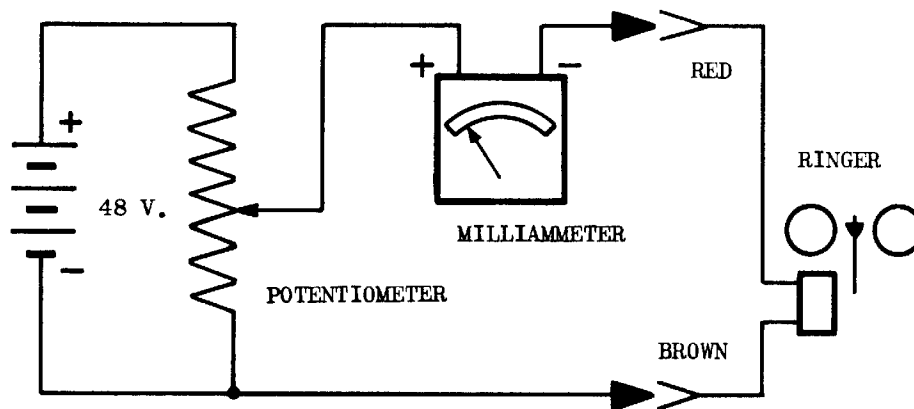

Fig. 13. Bias Adjustment
a. The recommended method of checking the bias adjustment is the current flow test. This requires a variable source of d-c voltage and a millammeter. The potentiometer connected across a 48 volt battery will provide a variable d-c voltage. Make sure the bias-spring is in the low-bias position. Connect the ringer, millammeter and potentiometer to 48 volt battery as shown in the diagram (Fig. 13). The ringer should be mounted in the telephone for this test.